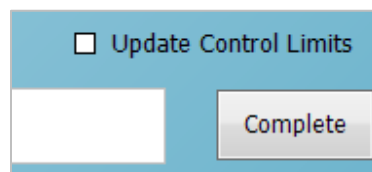

Figure 5-4: Update Control Limits Option
- To maintain the system control limits, ensure the *Update Control Limits* check box is unchecked (Figure 5-4) prior to clicking the Complete button.
- To update the control limits, check the *Update Control Limits* check box (Figure 5-4) prior to clicking the Complete button. Click OK on the confirmation message. Navigate to the *Configuration* tab, and confirm the values have updated from the previous entries (noted in Step 2).